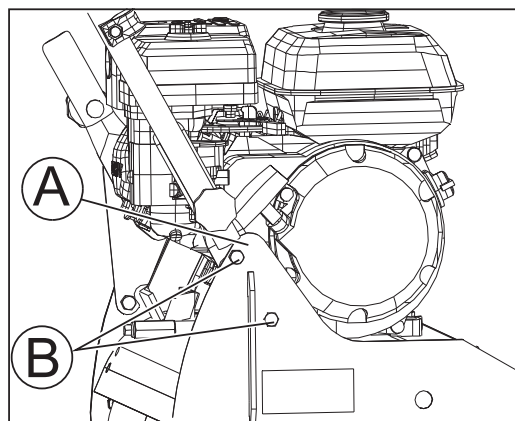
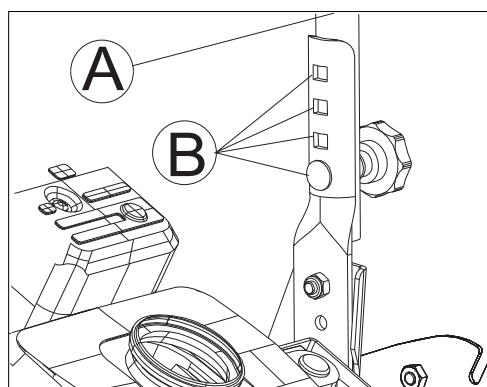

Fig 8.12a
Fig 8.12b
Where the tubes are attached to the side frames [A] (Fig 8.12a) and where the handlebars are attached to the lower handle tube [A] (Fig 8.12b).
1. Slacken the clamp bolts [B] (Fig 8.12a) to adjust the angle on the handlebars
2. For vertical handlebar adjustment remove the coach bolt from the handlebars, then replace in appropriate slot, [B] (Fig 8.12b) retighten bolt.